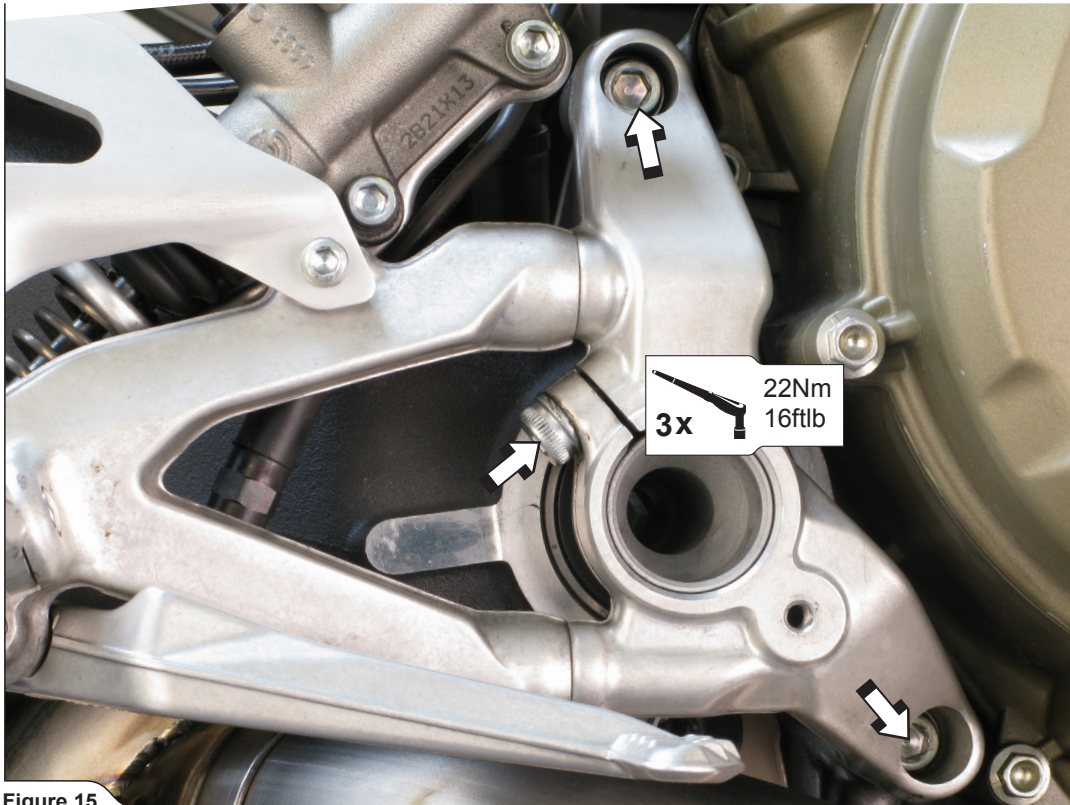

Figure 15
8. Reinstall the right rider's foot rest (Figure 15).